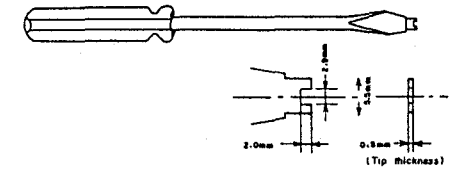

Fig. 5-4
Special nut is used in the tape guide (A) height adjustment nut ④. For easy adjustment, please make height adjustment nut driver by filing ordinary minus screw driver as shown Fig.5-4.